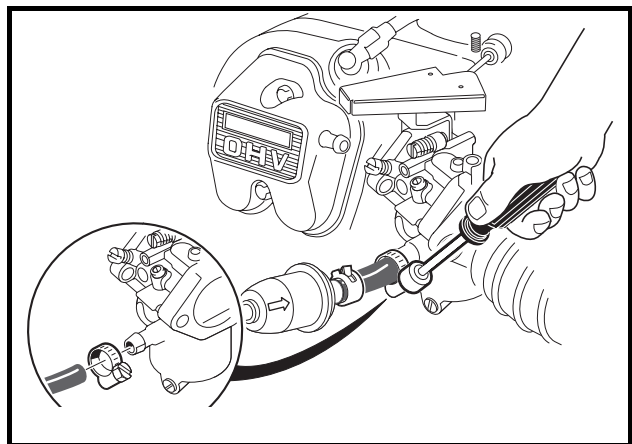

Figure 19-48 Connect Fuel Line
25. Remove the 1/4-inch bolt from the fuel line and connect the fuel line to the carburetor and secure with a hose clamp (**Figure 19-48, Page 19-17**).